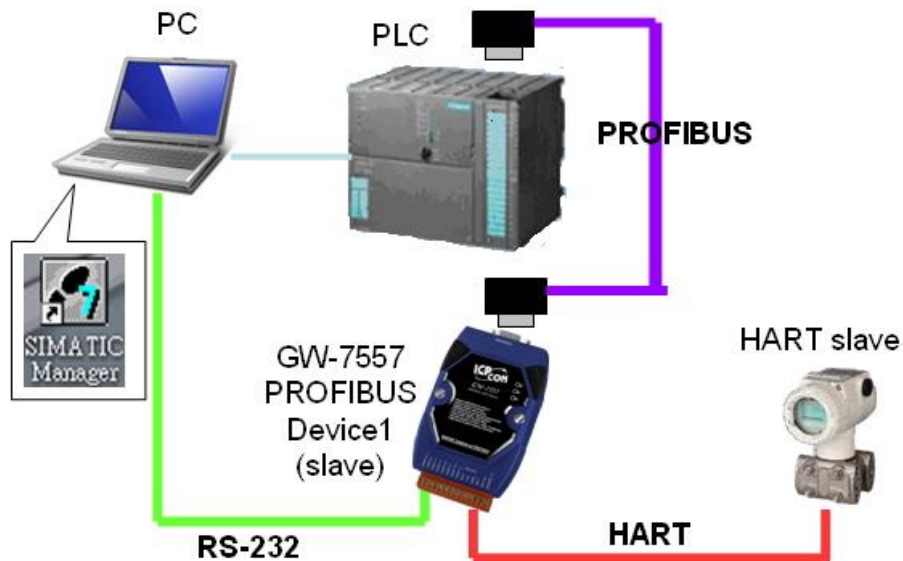

Figure 23 Wiring diagram between PC and GW-7557
Step 2: Connect the RS-232 port of the GW-7557 module to a COM port of the PC and the PROFIBUS port to a PROFIBUS master (*Figure 23*).